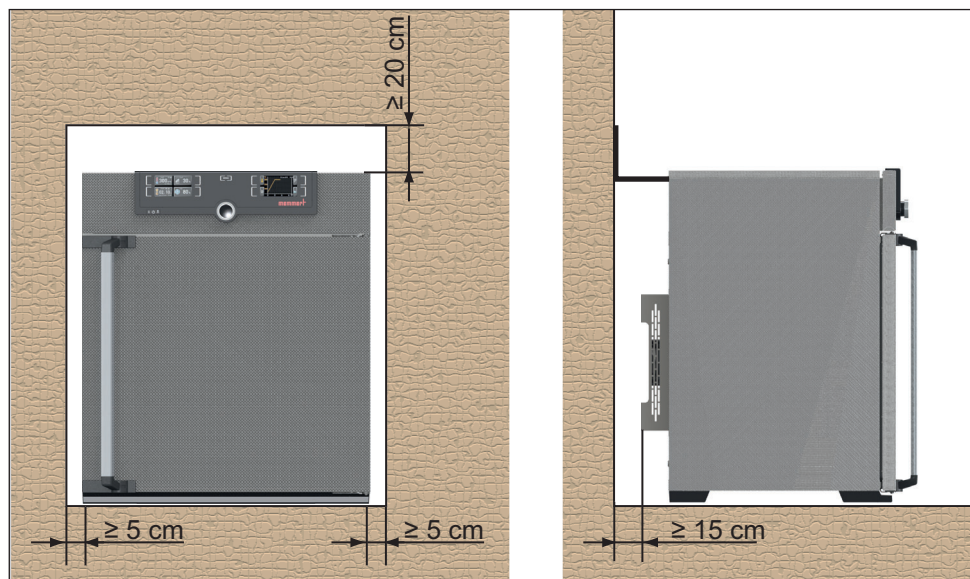

Fig. 9 Minimum clearance from walls and ceiling
The distance between the wall and the rear of the appliance must be at least 15 cm. The clearance from the ceiling must not be less than 20 cm and the side clearance from walls or nearby appliances must not be less than 5 cm (Fig. 9). Sufficient air circulation in the vicinity of the appliance must be guaranteed at all times.
2. Bend the tilt protection upwards by 90° in the desired distance to the wall (consider the minimum distance to the wall, see Fig. 9).